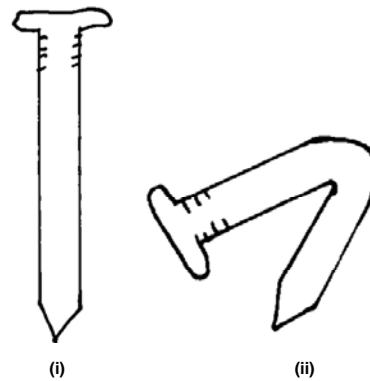

Figure 3 / Rajah 3
5. Figure 3 shows two nail samples sent by AAM Nail Sdn. Bhd. (M) for corrosion analysis which are: (i) straight and (ii) bent sample.